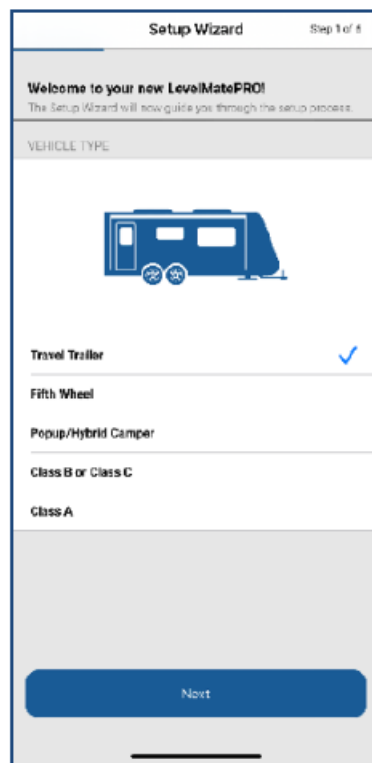

figure 3
Step 1) Select your vehicle type (figure 3). If your exact vehicle type is not listed simply select the vehicle type that most closely represents your vehicle type and is of the same category with regards to towable or driveable. This is important because certain parts of the setup process will vary based on whether you selected